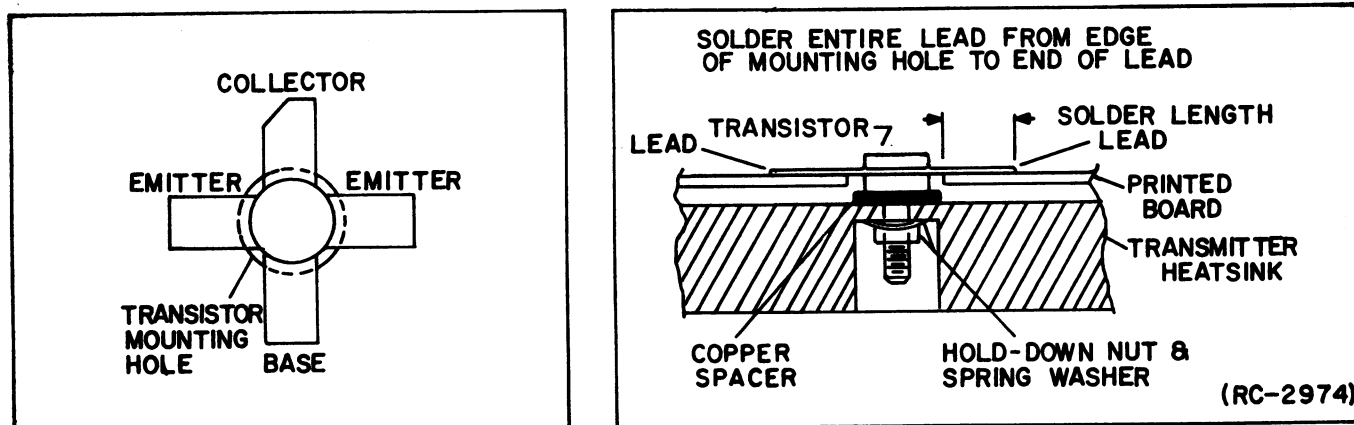
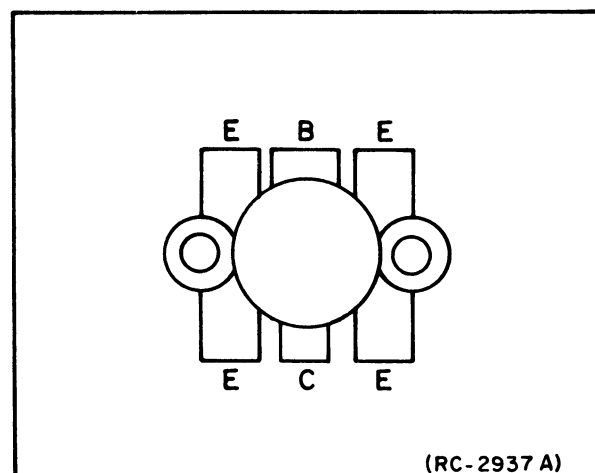

Figure 5 - Q202 Lead Identification and Mounting
Figure 6 - Q203 & Q204 Lead Identification
1. Trim the new transistor leads (if required) to the lead length of the removed transistor. Cut the collector lead of Q202 at a 45° angle for future identification. (see Figure 5). The collector lead of Q203 and Q204 is identified by the smaller center lead (see Figure 6). The letter "C" on top of each transistor also identifies the collector.